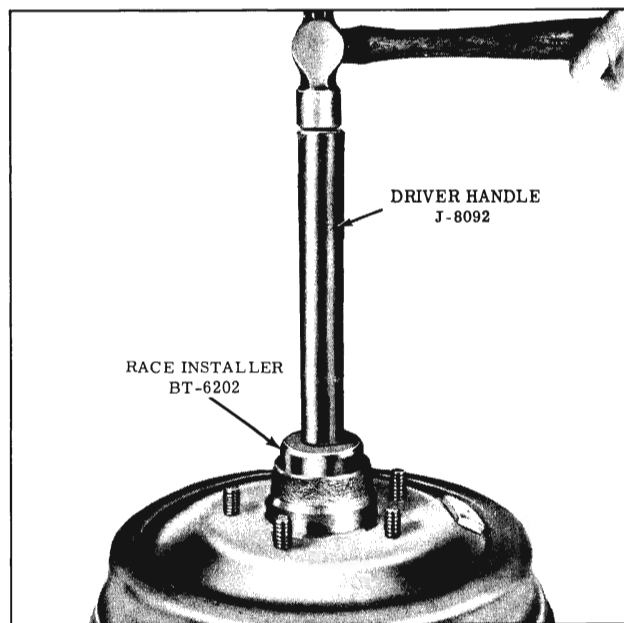

Fig. 5-4 Installing Outer Bearing Race
1. If the outer races were removed, drive or press the races into the hub as shown in Fig. 5-4 and 5-5.